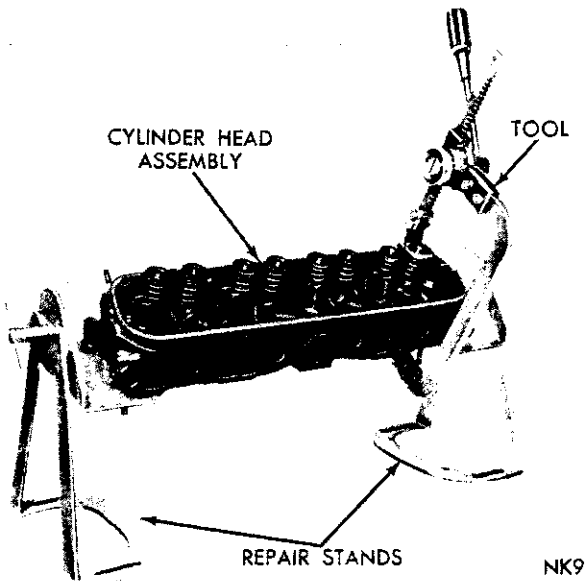

Fig. 10—Compressing Valve Spring
(1) With cylinder head removed, compress valve springs using Tool C-3422A, as shown in Fig. 10.
(2) Remove valve retaining locks, valve spring retainers, valve stem cup seals and valve springs.
(3) Before removing valves, remove any burrs from valve stem lock grooves to prevent damage to the valve guide. Identify valves to insure installation in original location.